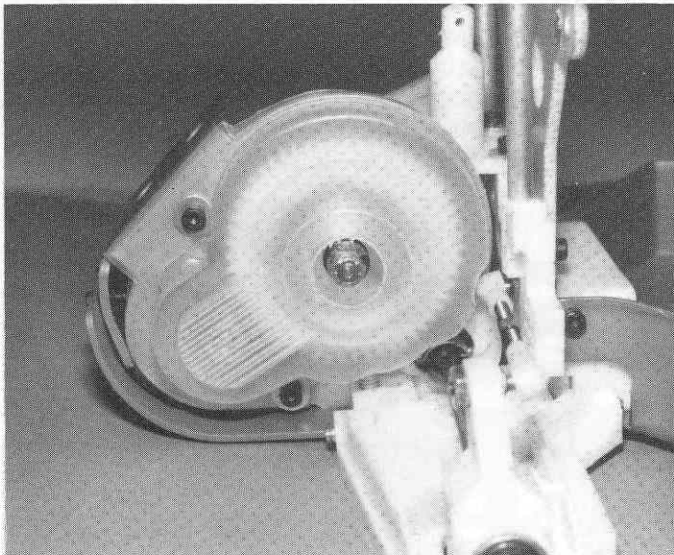

Fig. 140
□ **Fig. 140 & 140a** Now we'll install the #6608 dust cover, in Bag #6-12. You'll have to trim the dust cover to fit, with a scissors. But we want the dust cover to fold over the edges of the motor mount as far as possible. So slip the dust cover on, see where you have to trim and only cut off as much as you have to until you can snap the cover on. When the cover is on, you'll notice 2 indentations in the plastic where the 2 screws go. If you take an Xacto knife and twist it as you push, you can cut the 2 mounting holes in the plastic, or you can use a drill. You'll also have to cut a hole right in the center of the dust cover, by the dif adjusting nut, to fit the black button. You want the hole just big enough that the button will pop in and stay. When you want to adjust the dif, just remove the black button, make your adjustment, and reinstall the black button. Install the 2 mounting screws with washers, as shown.